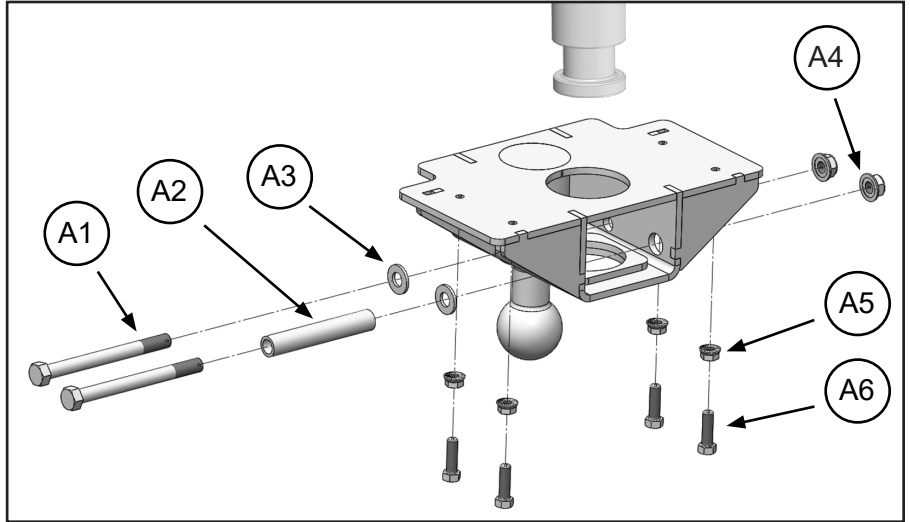

FIG.2
2. Slide the King Pin Adapter over the king pin and install one Adapter Plate Bolt {A1} and Flat Washer {A3} horizontally through the smaller cross hole nearest the hitch ball (FIG.2). Install 1/2" Flange Nut {A4} and hand tighten only.